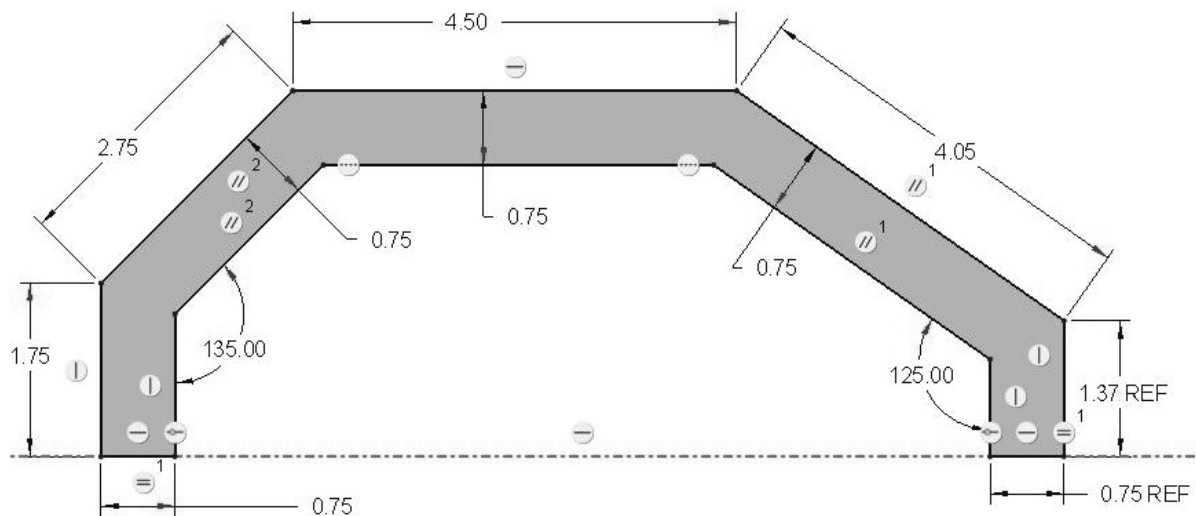

Figure 3-77 Problem 8—Support Frame
3.8 Draw the "support_frame" (Figure 3-77). **Design Intent**—The thickness of the frame is $\frac{3}{4}$ of an inch. The two legs are vertical and the top is horizontal. What is the volume of the shaded area if the support frame was 10 inches deep? Can you determine the volume underneath the support frame (white space under) if it is 10 inches deep? (>File>Options>Sketcher, change to 2-decimal places before sketching.)